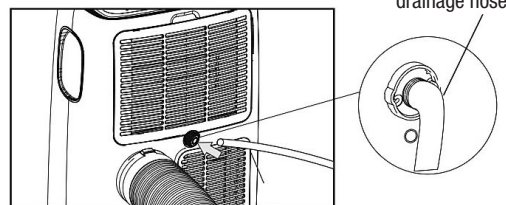

Fig.28
Continuous Draining (Fig.28)
3. Connect the drain hose (1/2" or 12.7mm, not supplied) (Fig.28).